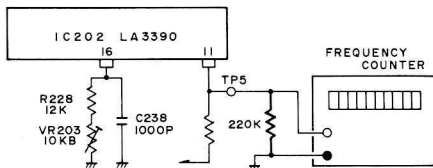

Figure 32
- Connect counter to TP5 (near IC202) and GROUND, and terminate a 220K resistor to counter input in parallel (Figure 32).